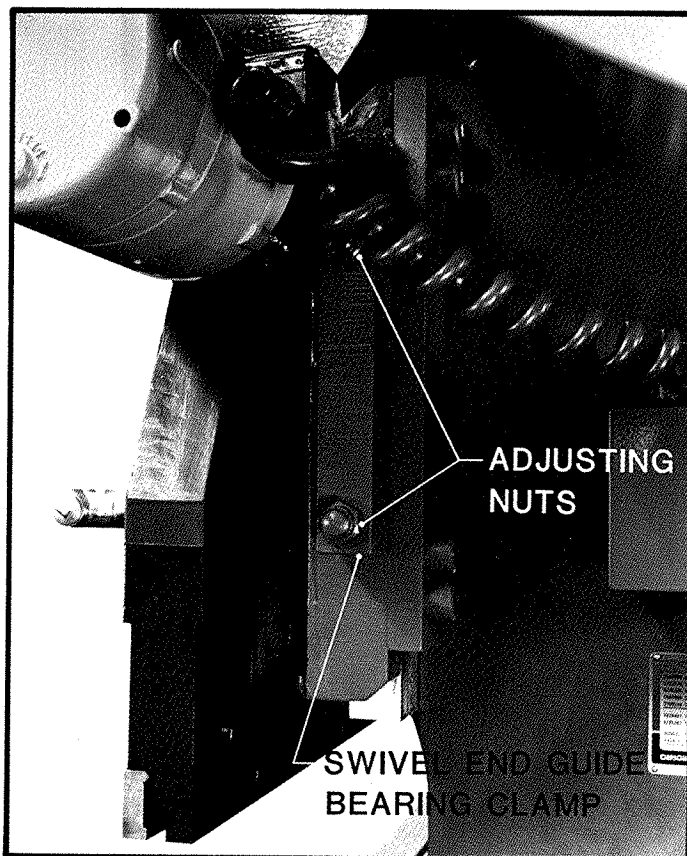

FIGURE 67
1. Adjust swivel end guide bearing clamp by tightening the two hex adjusting nuts evenly until they are snug. See Figure 67.